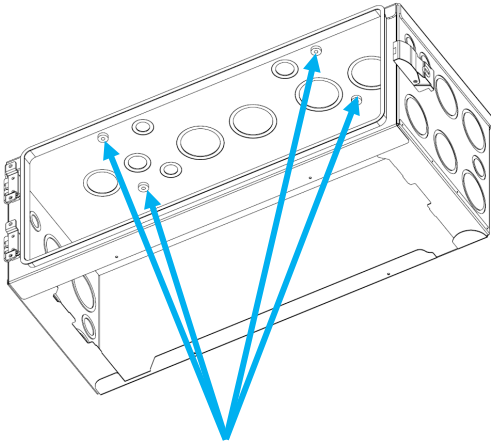

Figure 2 –Screw Install Location
Step 2: If installing the WallMount along with the 12 or 18kPV inverter, please use the 4 threaded inserts on the top side of the conduit box to secure it to the inverter as shown in **Figure 2** (if applicable). The screws needed are included with the 12 or 18kPV.